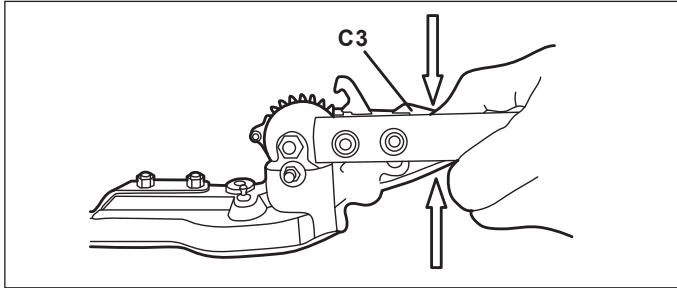

Fig. 15a
- a). Depress the locking levers (C3) with one hand and hold them in position. (See Fig. 15a)